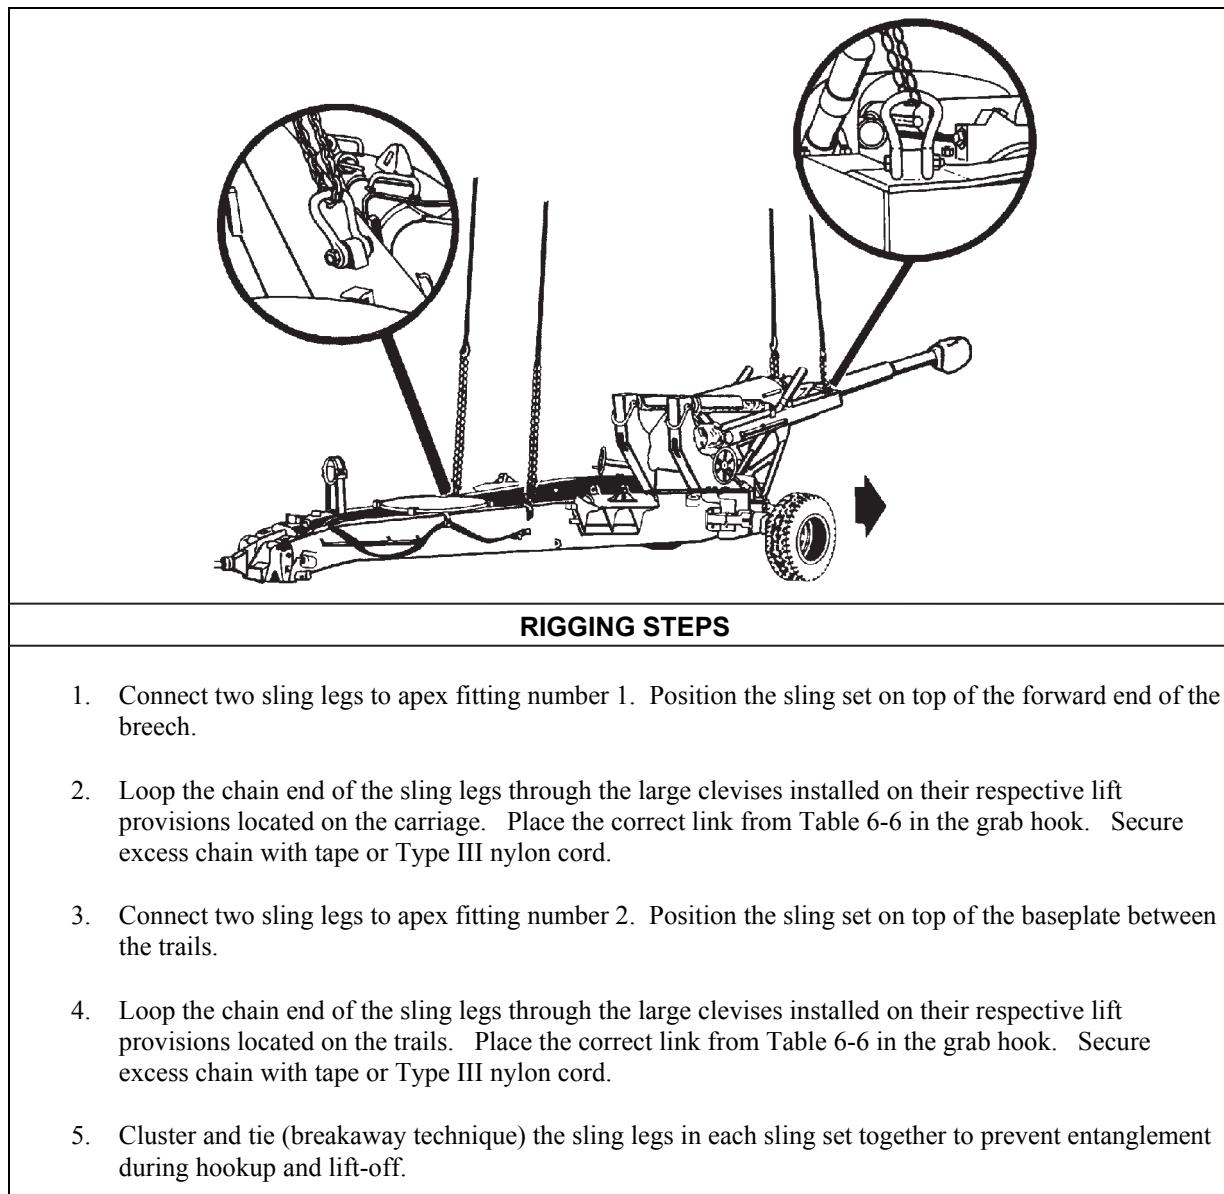

Figure 6-6. M198 Howitzer
- **Rigging.** Rig the load according to the steps in Figure 6-6.